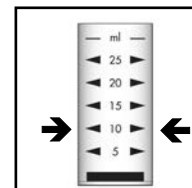

Figure 5
6. Pour **10 mL** of the treated sample into the **25 mL sample cup** (fig. 5), **Do not transfer cadmium** particles to the sample cup.